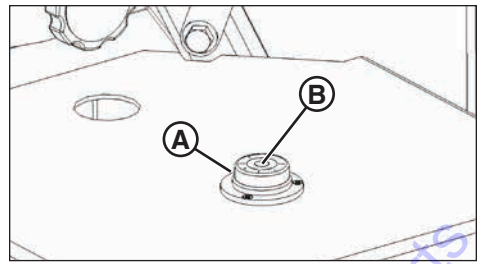

Figure 6
1. Position the portable light tower on an adequate work site. See **Work Site Safety Considerations**. Use the level as a guide to locate a level surface: When the bubble (B, Figure 6) is in the top center of the level (A), the unit is level.